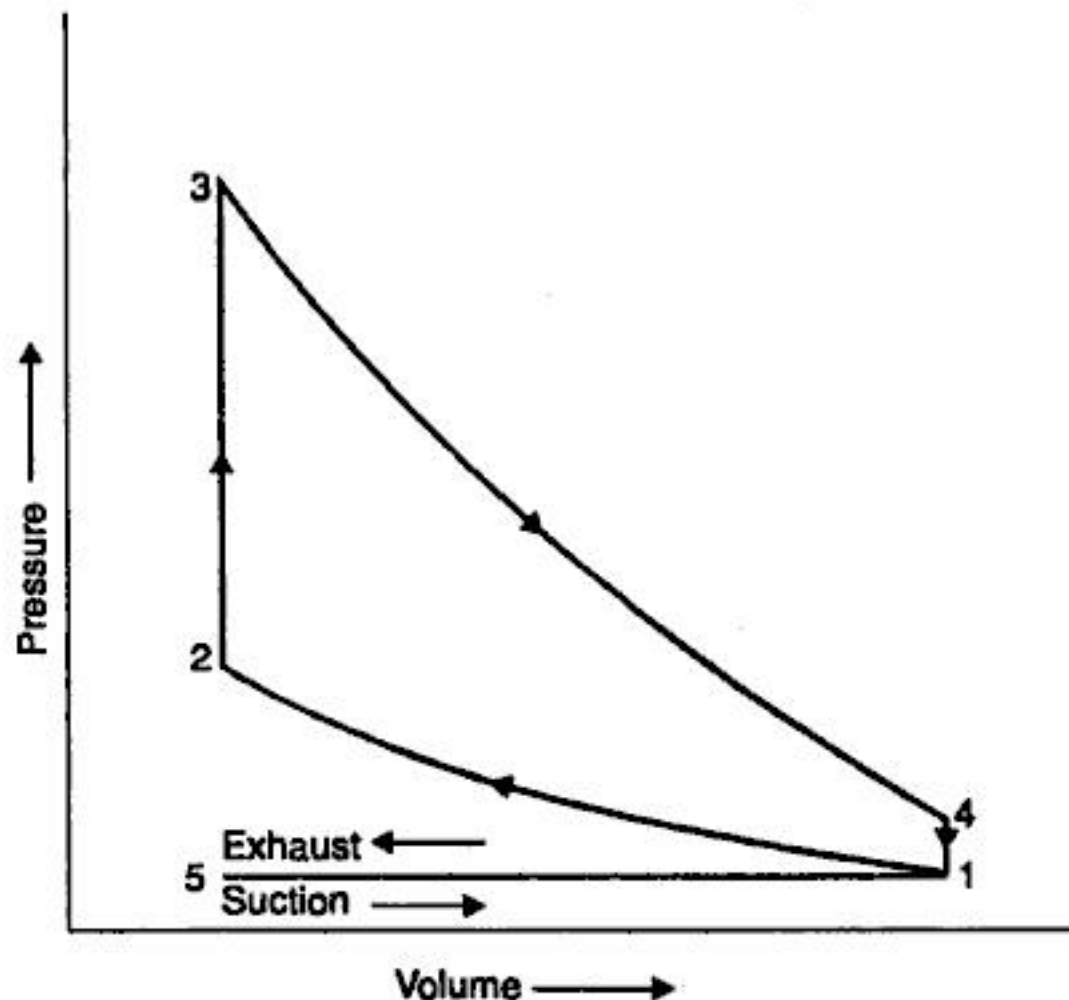

Fig. 2.35. Theoretical  $p$ - $V$  diagram of a four stroke Otto cycle engine.
2. **Compression stroke.** In this stroke, the piston moves (1—2) towards (T.D.C.) and compresses the enclosed fuel air mixture drawn in the engine cylinder during suction. The pressure of the mixture rises in the cylinder to a value of about 8 bar. Just before the end of this stroke the operating-plug initiates a spark which ignites the mixture and combustion takes place at constant volume (line 2—3) (Fig. 2.35). Both the inlet and exhaust valves remain closed during the stroke.
3. **Expansion or working stroke.** When the mixture is ignited by the spark plug the hot gases are produced which drive or throw the piston from T.D.C. to B.D.C. and thus the work is obtained in this stroke. It is during this stroke when we get work from the engine; the other three strokes namely suction, compression and exhaust being idle. *The flywheel mounted on the engine shaft stores energy during this stroke and supplies it during the idle strokes.* The expansion of the gases is shown by 3-4. (Fig. 2.35). Both the valves remain closed during the start of this stroke but when the piston just reaches the B.D.C. the exhaust valve opens.
4. **Exhaust stroke.** This is the last stroke of the cycle. Here the gases from which the work has been collected become useless after the completion of the expansion stroke and are made to escape through exhaust valve to the atmosphere. This removal of gas is accomplished during this stroke. The piston moves from B.D.C. to T.D.C. and the exhaust gases are driven out of the engine cylinder; this is also called *scavenging*. This operation is represented by the line (1-5) (Fig. 2.35).